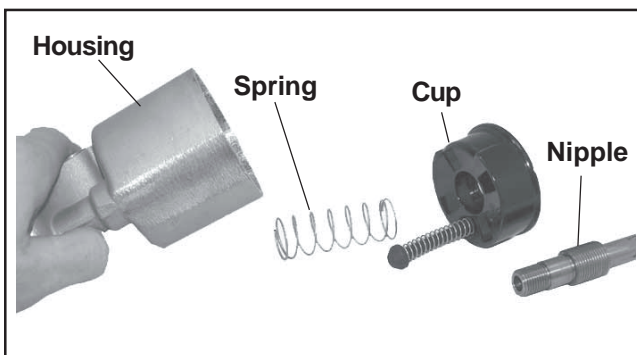

Figure 8-23. Disassembled Cup and Spring.
- b. Remove the oil filter cup and spring from housing. See Figure 8-23.